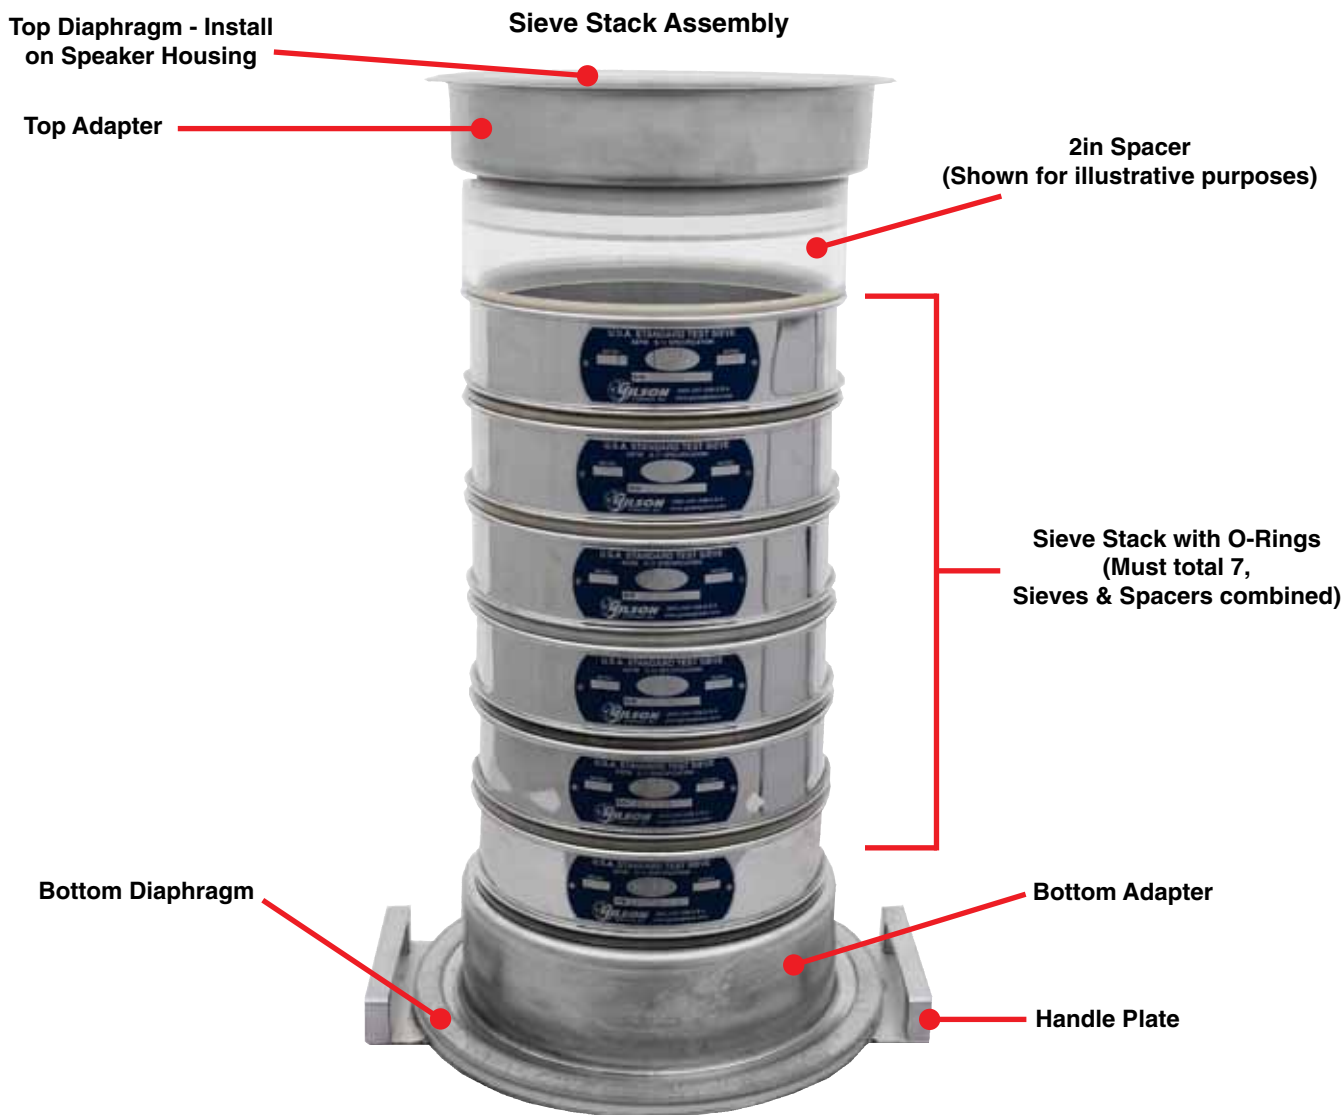

Figure 5.0
- A. Select desired sieves for testing. Sieve Stack Assembly must consist of seven sieves. If fewer sieves are used, the appropriate number of spacers must be added (see Figure 5.0). Mixing of wire-woven and precision sieves in the same stack is not recommended. O-rings must be used to maintain proper height of the sieve stack to engage the interlock.